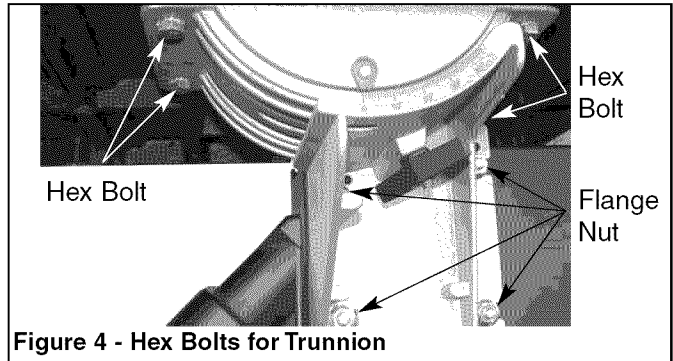

Figure 4 - Hex Bolts for Trunnion
- Loosen the four hex bolts mounting the table to the upper table trunnion (see Figure 4).